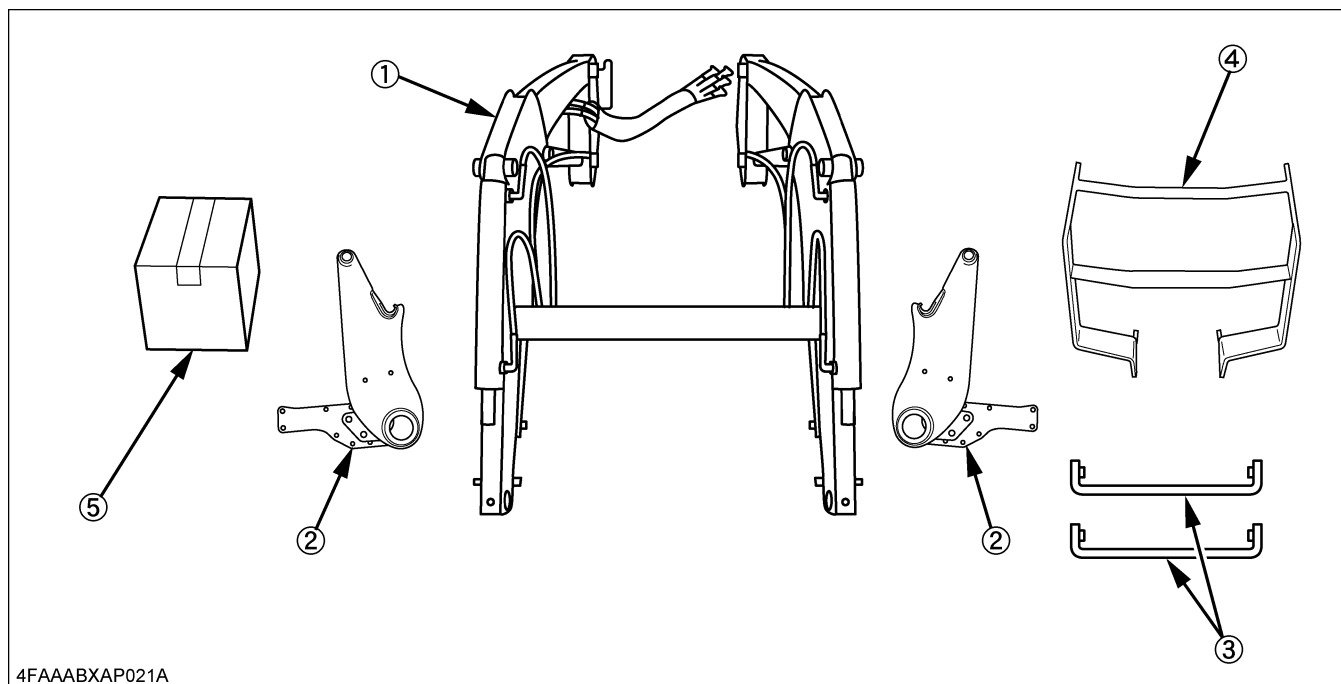

**Figure 1 :** Cutting area of the crate
- (1) Hook a hoist to the 4 corners of the crate and raise the hoist cable until taut. This serves to prevent the upper part of the crate from striking the loader when cut.
- (2) Saw the crate as indicated in figure 1.
- (3) Raise the upper part of the crate and remove from the immediate area.
- (4) Remove the remaining slats from the crate. These are indicated by the oblique lines in Figure 1...